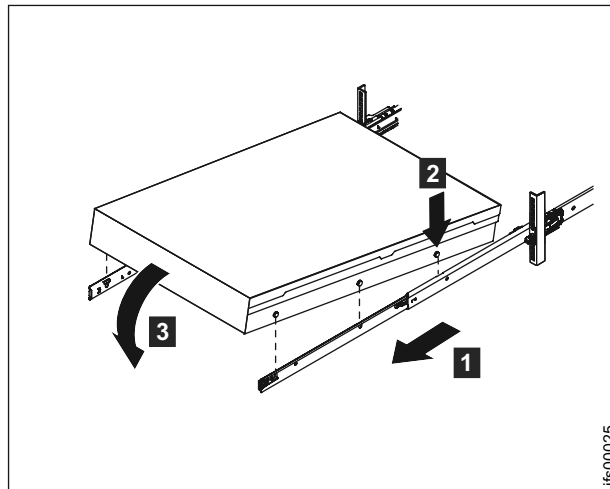

Figure 31. Installing the file module on the slide rails.
1. Pull the slide rails forward **1** until they click, two times, into place as shown in Figure 31 on page 42. Carefully lift the file module and tilt it into position
over the slide rails so that the rear nail heads **2** on the device line up with the slide rails. Slide the file module down until the rear nail heads slip into the two rear slots, and then slowly lower the front of the file module **3** until the other nail heads slip into the other slots on the slide rails. See Figure 31.